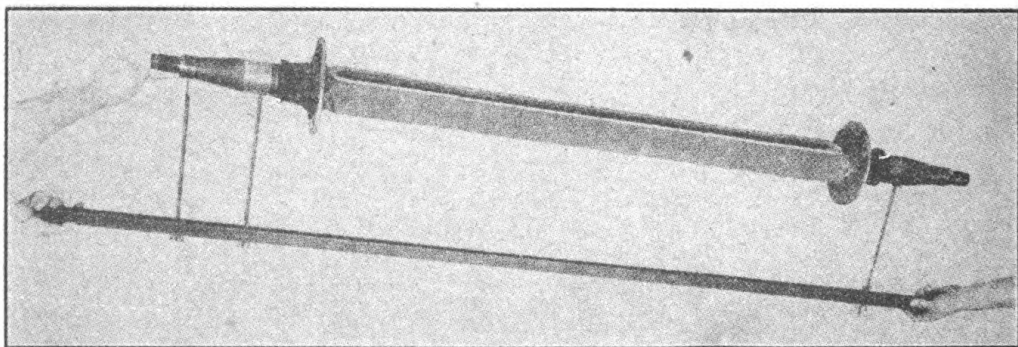

FIGURE 8. CHECKING AXLE FOR BEND.
3. **CHECKING FOR BEND (Figure 8).**—*a.* Place the axle gauge in position on the front side of the axle.